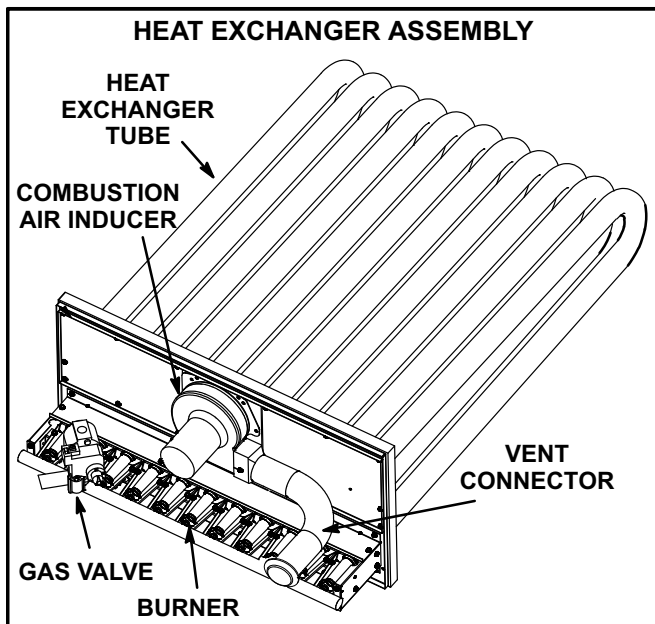

FIGURE 33
- 11- Remove and retain screws securing combustion air inducer to flue box. Remove vent connector. See figure 33.